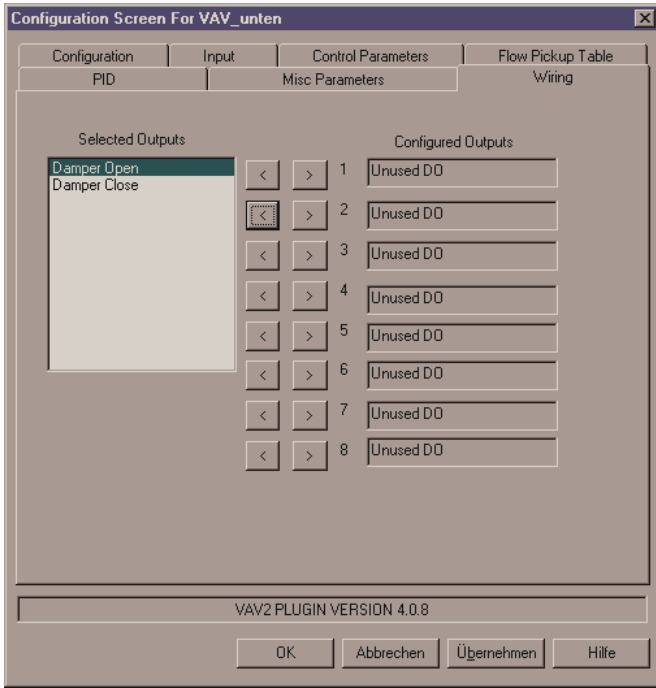

Fig. 10. Deselecting the output configuration
2. Then deselect the output configuration (see Fig. 10).